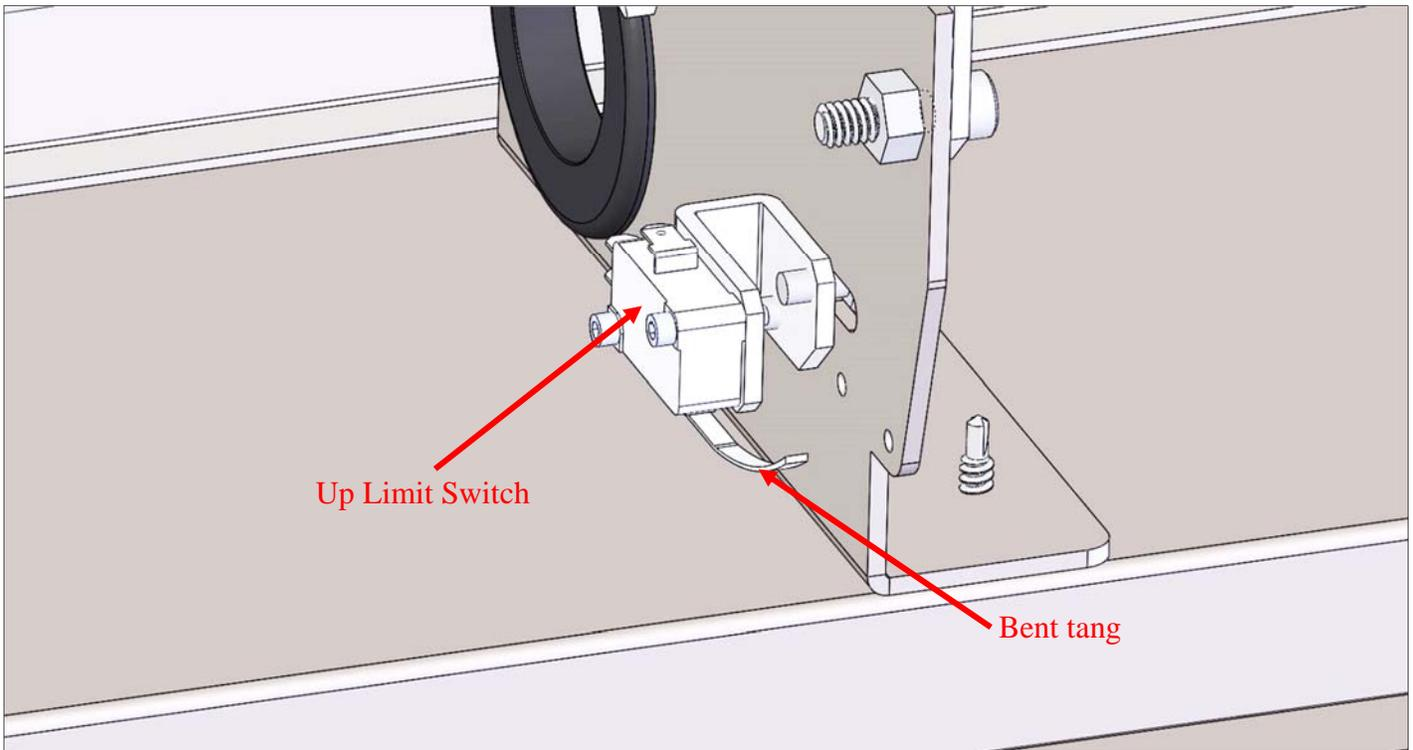

Figure 6 – An illustration of an Up Limit Switch bolted to a support bracket in the housing. Note the tang is bent as you may encounter in your installation.
Step 5 – Locate the Up Limit Switch inside the unit housing. The switch will be bolted to a support bracket as seen in Figure 6.